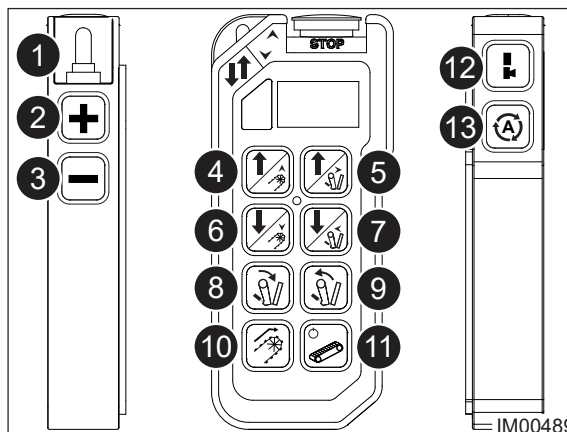

Fig: 9.3 - Auto Start Button
3. On the right side of the radio remote, press the Auto Run button (Item 13, Fig: 9.3).
4. Power Off the handset by pressing the On/Off Button (Item 12, Fig: 9.3).